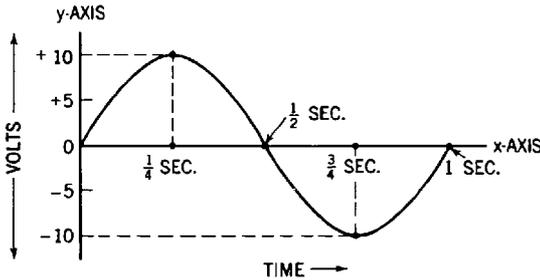

Fig. 32-10. Curve showing relationship between time and the induced voltage.
at the  $180^\circ$  position, and so on. Let us now look at the graph (Fig. 32-10) which shows the induced electromotive force at various intervals in the one second required for the loop to make a complete revolution. The graph was made from the data in Figure 32-9. The time is plotted on the horizontal axis ( $x$ ), and the electromotive force, on the vertical axis ( $y$ ).
We call an electromotive force, whose strength and direction varies as indicated by the curve of Figure 32-10, an *alternating electromotive force*.
**Application of the Sine Curve.** Note the resemblance of the sine curve to the curve of Figure 32-10. The path the sine curve follows during the time the loop of the generator is making one complete revolution ( $360^\circ$ ) is called a *cycle*. The symbol for the cycle is  $\sim$ . The number of cycles per second will depend upon the number of revolutions per second of the generator loop. The number of cycles per second is called the *frequency*. The symbol for frequency is  $f$ .